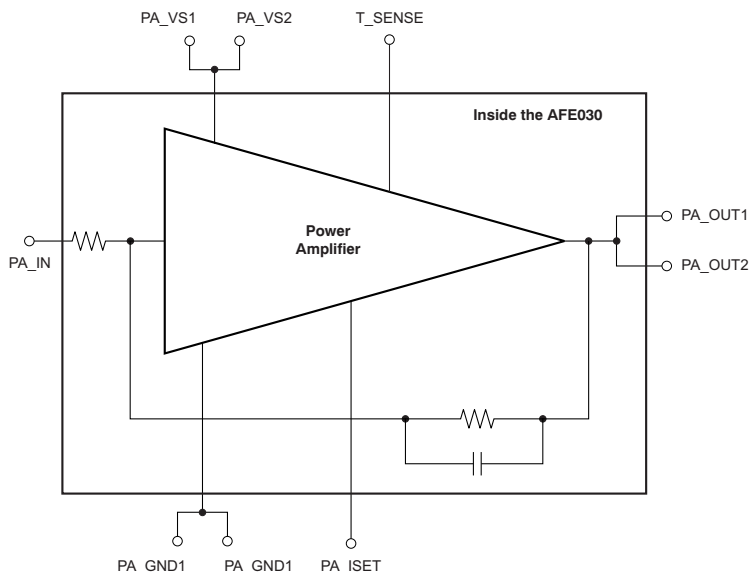

Figure 25. PA Block Equivalent Circuit
The power amplifier (PA) block consists of a high slew rate, high-voltage, and high-current operational amplifier. The PA is configured with an inverting gain of 6.5 V/V, has a low-pass filter response, and maintains excellent linearity and low distortion. The PA is specified to operate from 7 V to 26 V and can deliver up to ± 1 A of continuous output current over the specified junction temperature range of -40°C to $+125^{\circ}\text{C}$. Figure 25 illustrates the PA block.